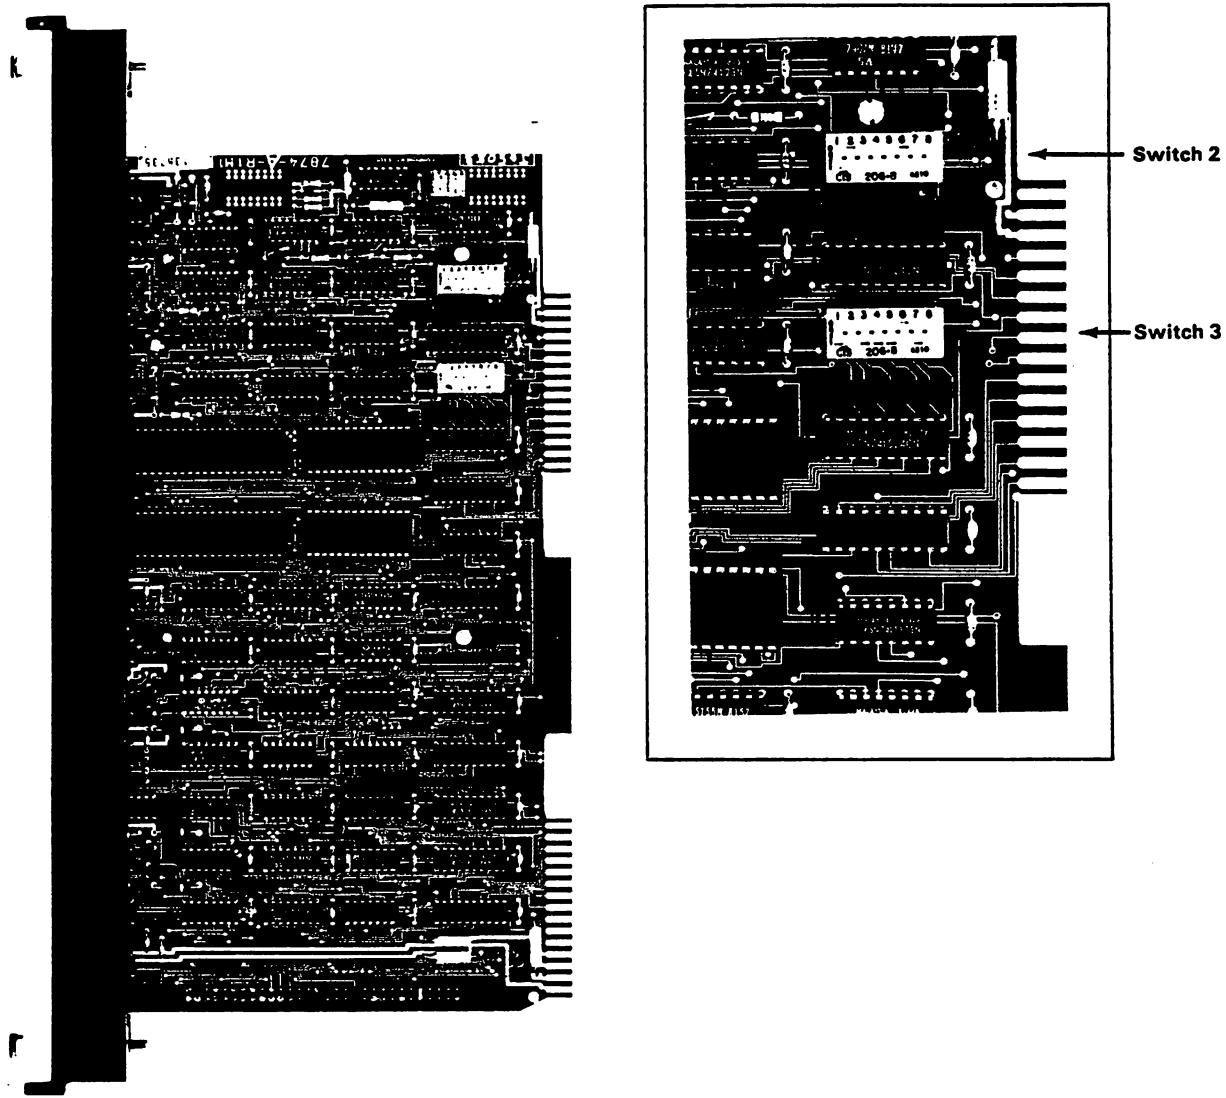

Figure D-1 Transmission Rate Switches
3. Locate the two 8-position DIP switches on the processor board used to set the transmission rate. (Refer to Figure D-1).